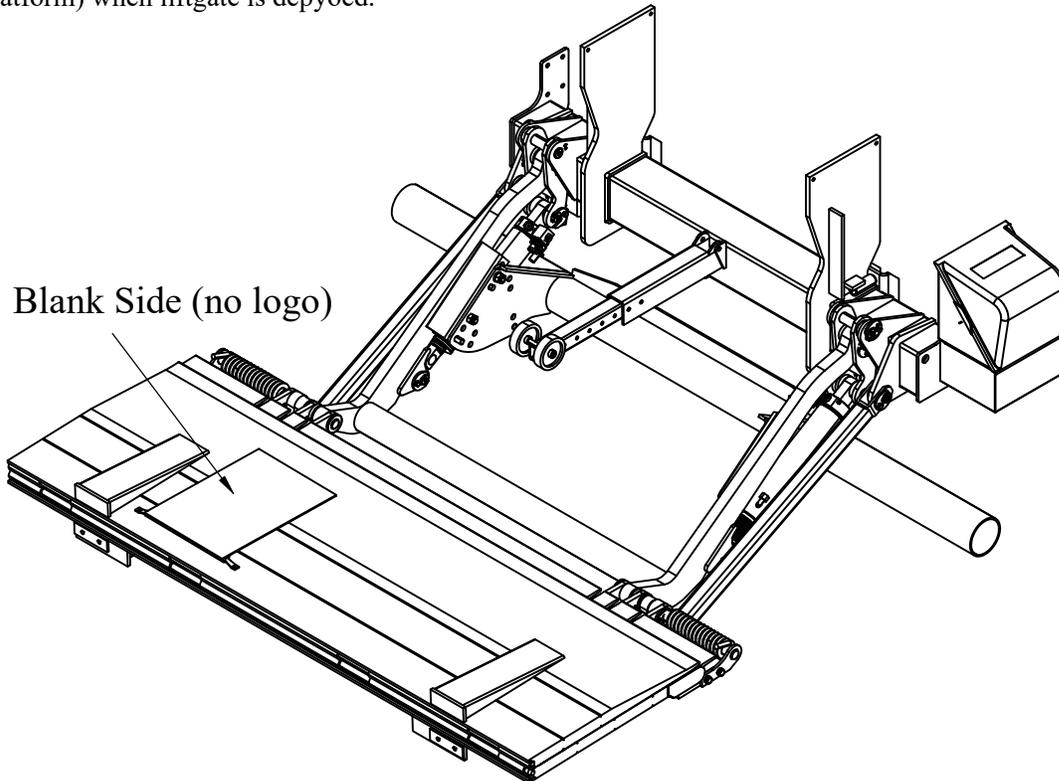

Figure 35: Platform Reflective Flags.
2. **Identify** the four (4) holes on the platform (Figure 35).
Note: Before riveting the flags, make sure they have the Tommy Gate logo facing the platform and the blank side facing up (Figure 35).